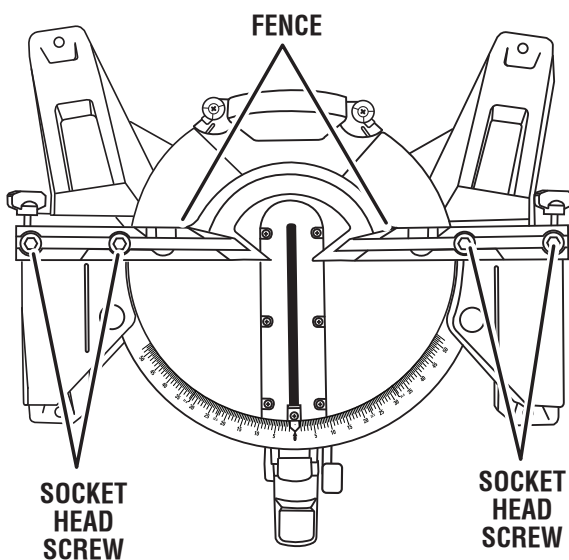

Fig. 19
- Using the blade wrench, loosen the socket head screws that secure the fence to the miter table. *See figure 19.*